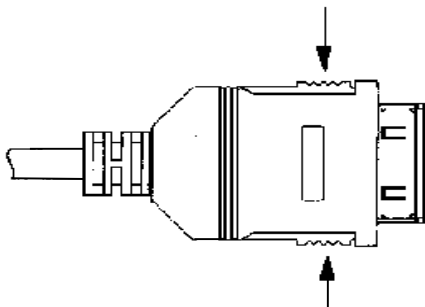

Figure 3. The I/O connector on a DRVcan. The tabs are marked with arrows.
- To remove the connector, push both tabs (see **Figure 3** below) as deep as possible and pull out the connector.
- When you remove a DRVcan, you must firmly press both the tabs (see **Figure 3** below) on the connector.